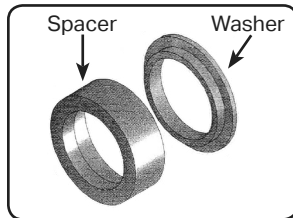

fig. 1
The enclosed locker contains two small washers in addition to the normal Lock-Right® parts described in the installation manual. They must be used with your locker whether you have a C-clip or a non-C-clip differential. If you have a non-C-clip differential, then simply assemble the washers onto the spacers using grease to keep them together and follow the instructions in the installation guide treating the washer/spacer assembly as one piece, **(fig. 1)**. *If the locker is being installed in a C-clip differential, follow the directions to the right in addition to the installation manual.*
- 5:** Assemble the other washer onto the spacer using grease to keep them together and continue with the instructions in the manual, treating the washer/spacer as one piece, **(fig. 1)**.